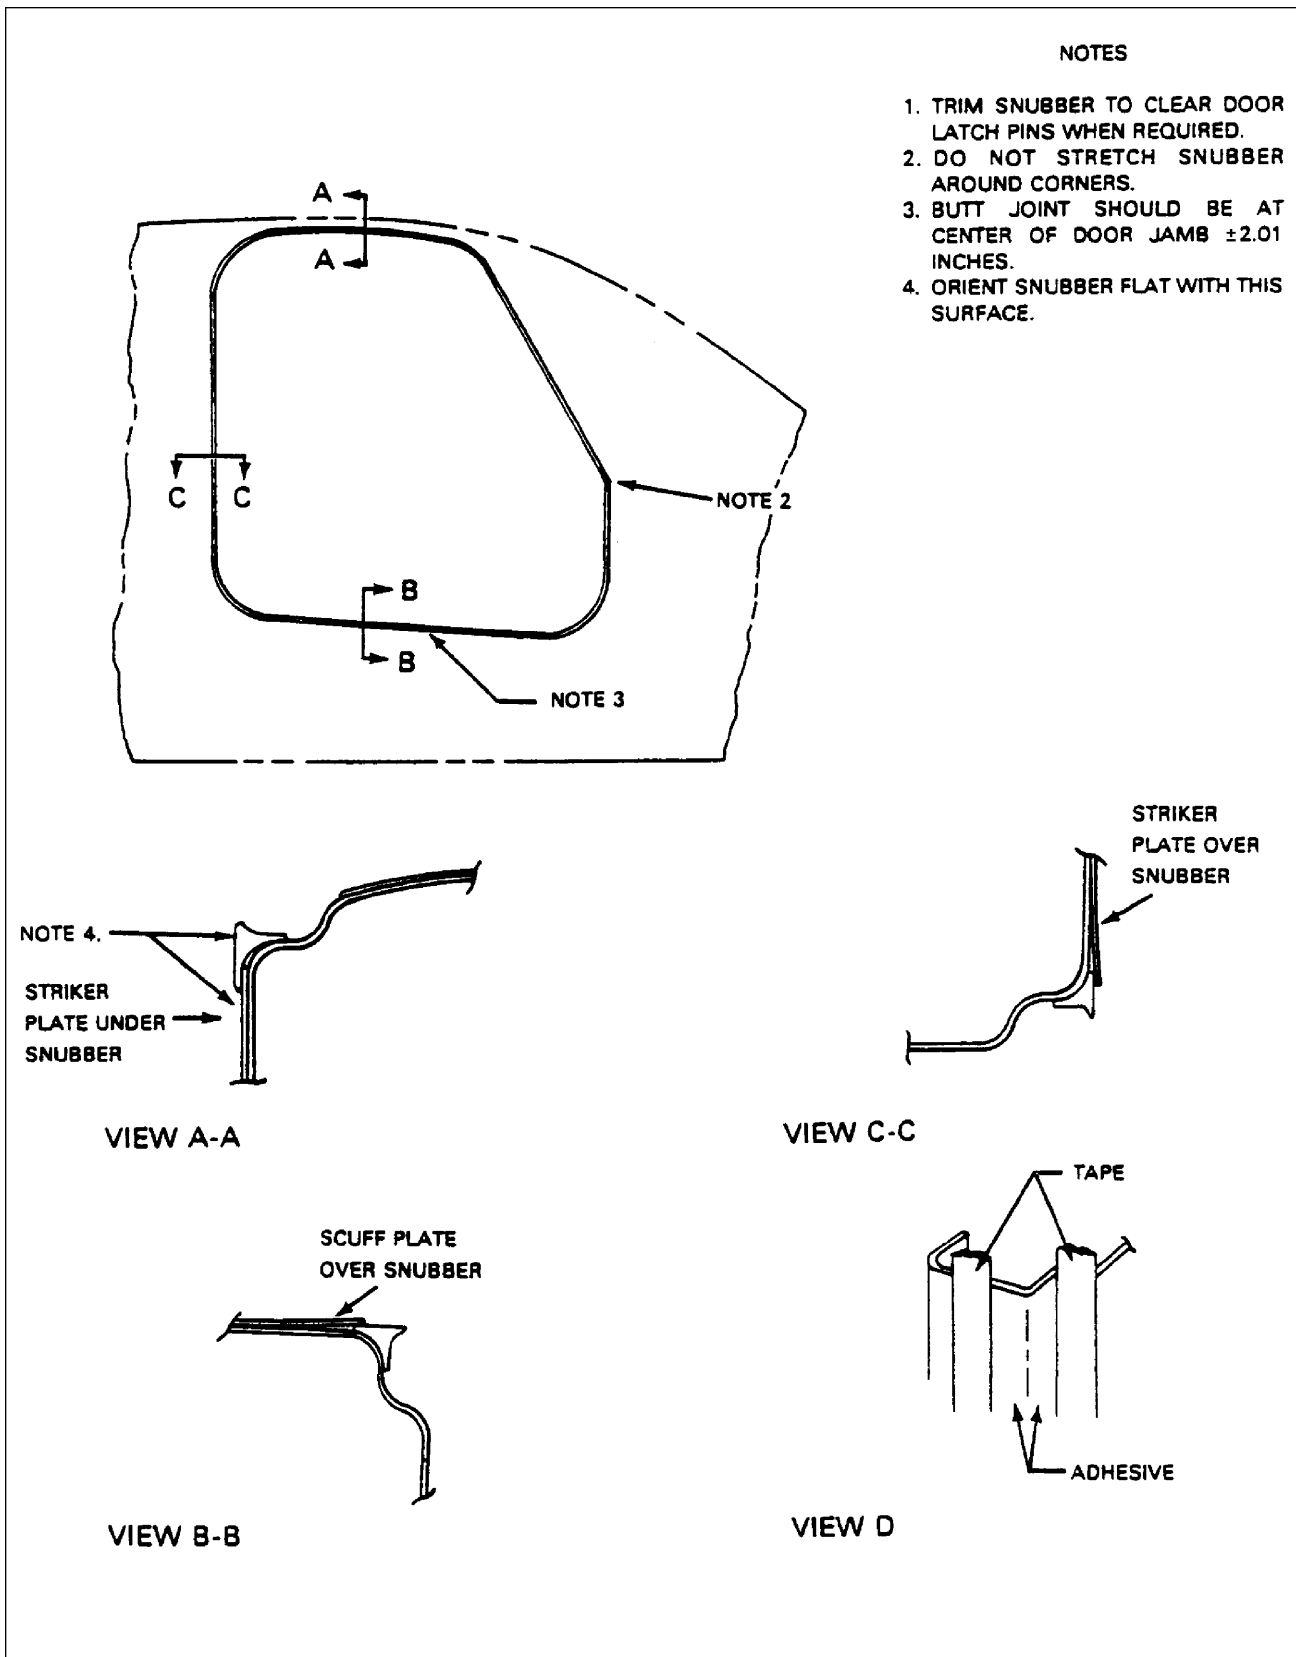

Figure 4-8. Door Seal Snubber Installation
### 4-47a REMOVAL AND INSTALLATION OF DOOR SEAL SNUBBERS. (Refer to Figure 4-8.)
- d. Remove the striker plate. (Refer to Figure 4-8.)
- 2. To effect a clean installation it is recommended that the door jamb is masked off with tape as shown in Figure 4-8, View D.
- 3. Apply adhesive to the door jamb with a small brush on the area indicated in Figure 4-8, View D.